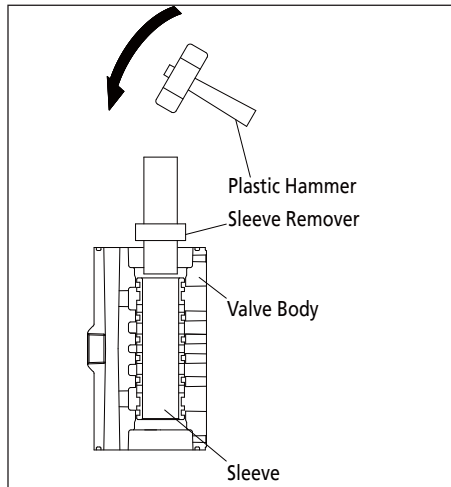

Figure 30
- Remove the sleeve using the sleeve remover (special tool: part number 713180). (See Figure 30 and 31)